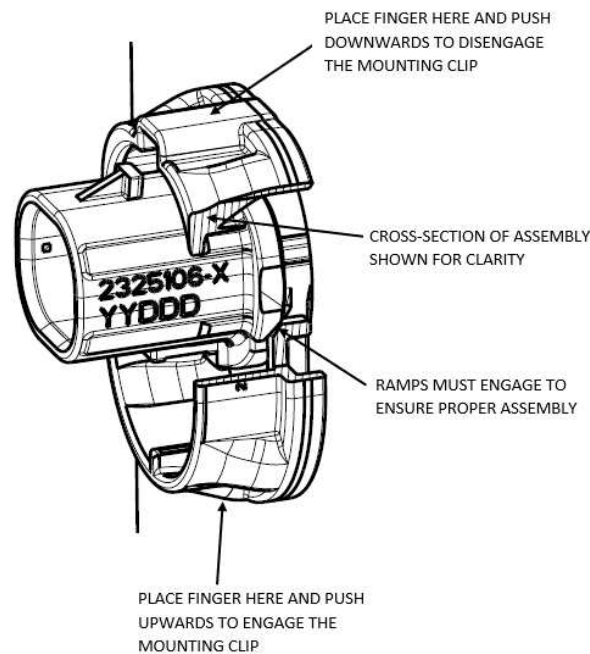

Figure 25
- iii. Slide the mounting clip linearly upwards until the part snaps into place. Take note that the ramps on the clip must engage with the ramps on the header or adapter housing otherwise assembly cannot be completed (See Figure 25). It is important to ensure the clip stays aligned as the clip is pushed upwards. The mating plug will not be able to assemble unless the mounting clip is properly assembled to the correct position.
- ii. Slide mounting clip linearly downward pushing from the top surface as shown in Figure 25.